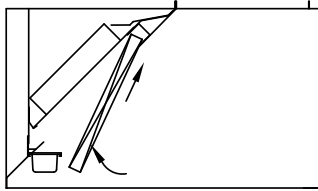

Fig. 19
5. Install the Grease-X-Tractor™ primary filters in the same manner using the front filter channel; Fig. 19.